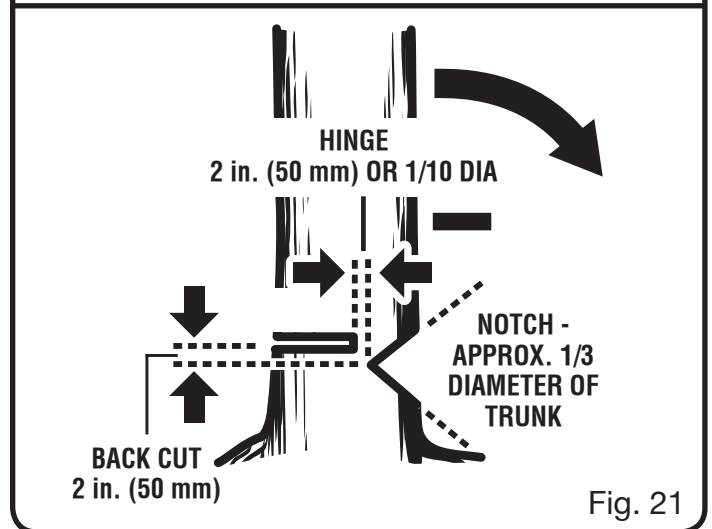

Fig. 21
- **Notched Undercut.** Cut a notch about 1/3 the diameter of the tree as shown in figure 21. Make the cuts of the notch so they intersect at a right angle to the line of fall. This notch should be cleaned out to leave a straight line. To keep the weight of the wood off the saw, always make
See Figure 21.
- **Felling Backcut.** The backcut is always made level and horizontal, and at a minimum of 2 in. above the horizontal cut of the notch. See Figures 21 - 22.
- Never cut through to the notch. Always leave a band of wood between the notch and backcut (approximately 2 in. or 1/10 the diameter of the tree). This is called “hinge” or “hingewood.” It controls the fall of the tree and prevents slipping or twisting or shoot-back of the tree off the stump. See Figures 21 - 22.